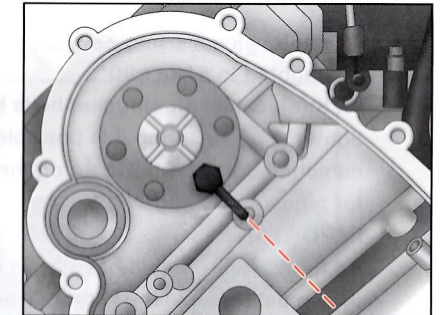

Fig.29
- (8) Refit Camshaft Locking Pin (Part No.D) to prevent the camshaft rotating while the remaining work is carried out in order to remove the cylinder head. (Fig.29)